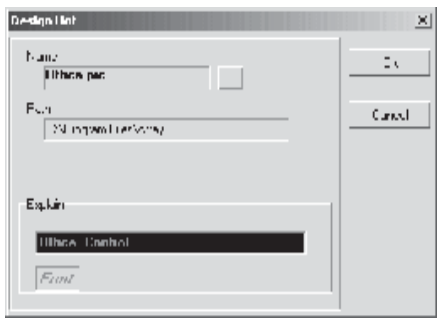

Fig. 4-38 Define Hot Area
1. Click the fast icon of the hot area , move the mouse to the position to put the hot area, then move it together with the rectangle appearing and click the position where the rectangle appearing, then the dialogue frame as in Fig. 4-38 will be popped out. If you want to modify the defined hot area, just double click the hot area in the drawing diagram and the hot area definition dialogue frame as in Fig. 4-38 will be opened.